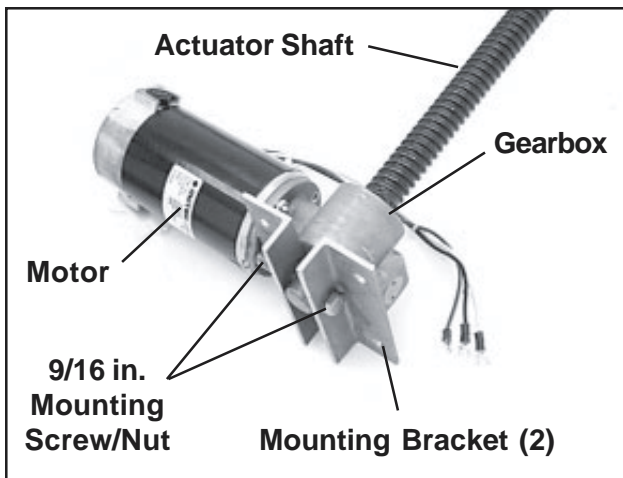

Figure 32. Bottom End of Actuator
18. With two 9/16 in. wrenches, remove the screw and nut on the lower mounting brackets and remove the brackets (Figure 32).
1. Mount the two mounting brackets to the gearbox with the 9/16 in. bolt and lock nut removed above (Figure 32).